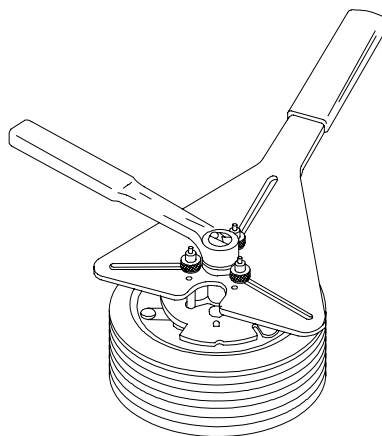

Figure 14 Armature Assembly Removal
43. Armature Assembly Removal. To remove the armature assembly, proceed as follows (refer Figure 14):